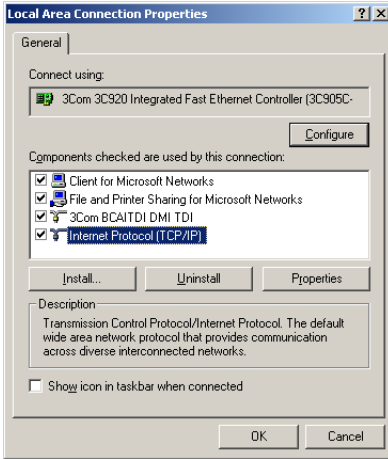

Figure 7-1 Local Area Connection Properties Window
3. Highlight the “Local Area Connection” icon. View the properties by right-clicking and selecting “Properties.” The Local Area Connection Properties Window will open (Figure 7-1).